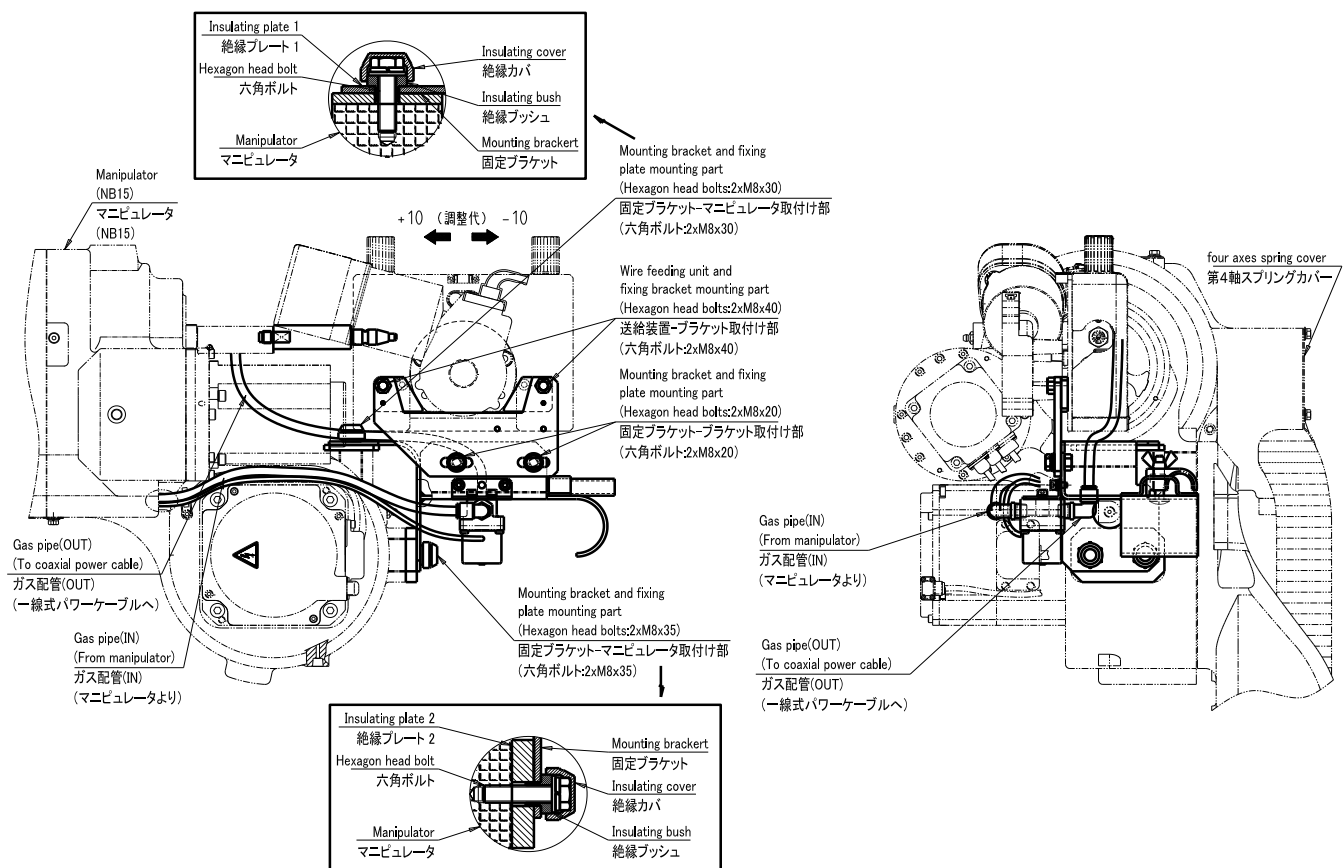

Fig.5.3 Attaching to NB15 manipulator (procedure (7))
- (7) As shown in Figure 5.3, plumb the gas hose to the solenoid valve. Run gas piping IN along the upper portion of the 3rd axis motor. Pass gas piping OUT through the clearance between the wire supply unit and the lock bracket.